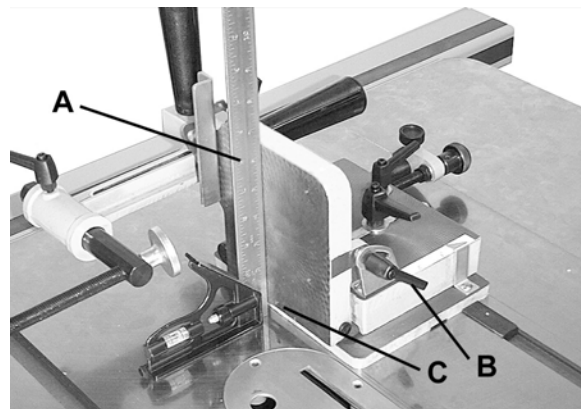

Figure 2
2. Using a square (A, Fig. 2), check to see if the fence is 90 degrees to the saw table. To make an adjustment to the fence, loosen the lock handle (B), adjust the fence to the 90-degree position and tighten lock handle.
3. When the fence is 90 degrees to the table, tighten setscrew (C) until it bottoms. See Figure 2. Setscrew (C) acts as a positive stop and allows you to quickly position the fence back to the 90-degree position after it has been tilted.